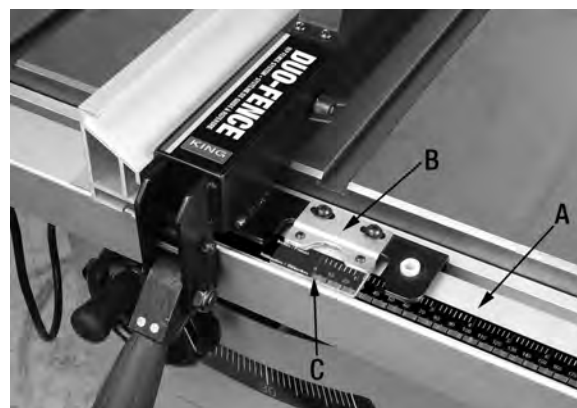

FIGURE 26
- 2) The front rail (A) Fig.26 must be positioned so the "0" mark (C) aligns with the red line of the indicator window (B). Lightly tap one end of the front rail until the "0" mark aligns with the red line of the indicator window.